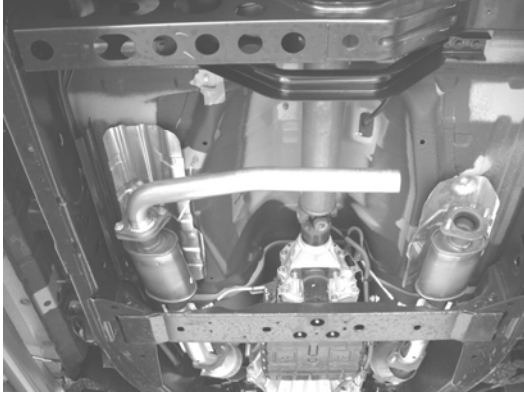

Figure 7
1. Using the original hardware and gasket, place the left front pipe assembly into position as shown in figure 7 making sure to install the ground strap. Hand-tighten the hardware for now.